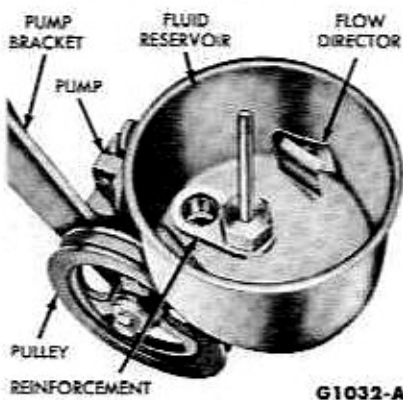

FIG. 6—Fluid Reservoir
2. Remove the retaining bolt or wing nut and stud, washer and the reservoir cover. Remove the reservoir retaining nut and reinforcement from inside the reservoir and lift the reservoir off the pump (Fig. 6).